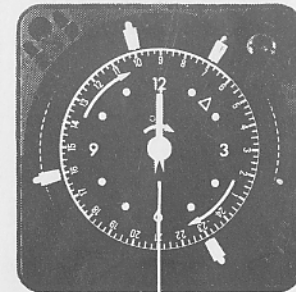

Fig 2 Clock Adjuster
- Position tappets in outer dial as shown. **Red** tappets switch **On**, **blue** tappets switch **Off**. For example, if you want to switch on between 7 and 10 am and then between 4pm (16.00 on 24 hour dial) and 11pm (23 on dial), tappets are positioned as shown in fig 2. In the event of power cuts etc, remember to reset the clock by turning clock fingers **clockwise** only using clock adjuster knob.